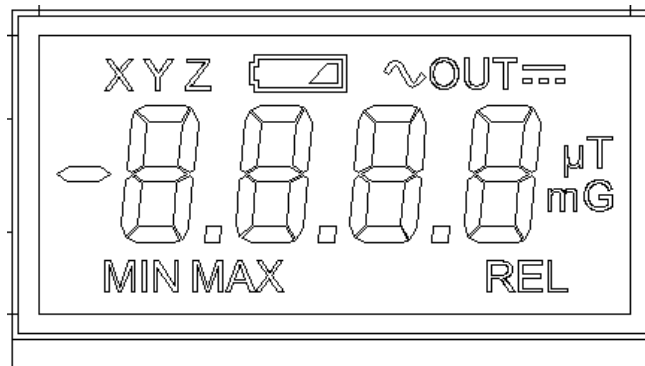
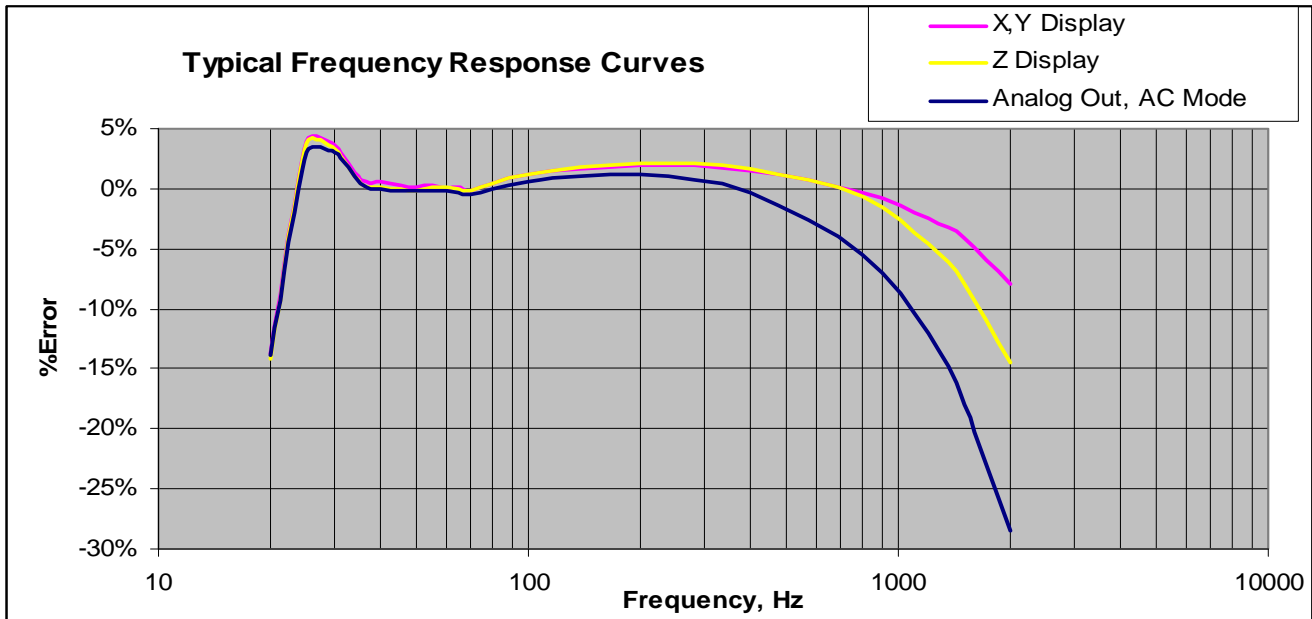

Figure 3-3
Figure 3.5
- 5 **RELATIVE / OUTPUT.** When REL is selected, the meter will establish the present field level as the “new” zero point. This feature is useful for measuring field changes relative to a field level other than zero. Model 4190 only: By pressing SHIFT- REL, the analog output is activated and a DC or AC signal proportional to the field magnitude will be available at the analog output 3.5mm connector. The 4100 Series does not respond to DC fields, but a DC analog voltage output proportional to the field level is available and may be more easily connected to a data acquisition system or other equipment. Calibration is set to 2.0 Vdc full scale when the analog output is set to the DC mode (OUT $___$). If the meter is operating on the low range then 2.0Vdc will correspond to 200mG or 20 μ T. If the meter is operating on the high range, then 2.0Vdc will correspond to 2000mG or 200 μ T. For example, 1.32Vdc could represent either 132.0mG or 1320mG depending which range the meter is on. The output when set to AC mode will be a time-varying signal which will allow the user to view the waveform on an oscilloscope if desired. The AC output is calibrated to 1.0VacRMS full scale and follows the typical frequency response curve as shown in Fig. 3.5. Just like the DC mode, the AC output signal voltage may represent different field levels depending on whether the meter is operating in low or high range.
Low Battery Indicator: The low battery indicator is activated when the battery voltage falls below approximately 4.44 volts. The indicator is found on the top center section of the display. See figure 3-3.
UNITS: The units for the field level readings are found on the right-hand side of the display. By pressing the UNITS key, the meter will toggle between μT or mG. This function is operational while the HOLD or REL functions are active. See figure 3-3.
MIN / MAX (HOLD): (Model 4190 only) When the HOLD function is activated with the SHIFT- HOLD key sequence, MIN will be shown in the bottom left hand side of the LCD. Pressing the SHIFT-HOLD sequence a second time will display MAX, and a third time will turn the HOLD mode off again. The meter will record the highest reading when in MAX HOLD mode (or the lowest reading when in the MIN HOLD mode) since the time HOLD was activated or the reading was RESET. This function can be used in conjunction with RESET. By pressing the SHIFT- RESET key sequence, the held reading will reset to the present level. See figure 3-3.
REL: When performing a relative measurement, the REL indicator will become visible on the bottom right-hand side of the display. See figure 3-3.
Analog OUTPUT: When the analog output is activated, the indicator “OUT” is visible accompanied by either the DC (---) or the AC (~) symbol. This feature is only functional on the Model 4190. By pressing the SHIFT–OUTPUT key sequence the meter will switch between output off, DC OUT, or AC OUT. See figure 3-3. In DC OUT mode the signal is calibrated to 2.0Vdc full scale. In AC OUT the signal is a waveform calibrated to 1.0VacRMS full scale and rolls off at higher frequencies due to the filtering in the output circuit. This is typically $\pm 3\%$ from about 30 to 500Hz, decreasing to -3dB at 20 and 2000Hz. See Fig. 3.5 for a typical response curve. AC output (~) is only available in the single axis modes. In XYZ mode only a DC analog output is available.